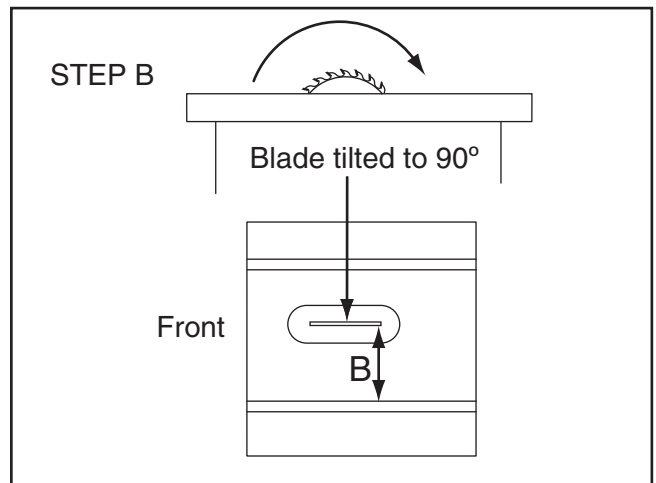

Figure 104. Measuring distance from miter slot to carbide tip on opposite side of table insert.
5. Slide the adjustable square down to the other end of the table insert, and compare the distance from the marked blade tip to the end of the adjustable square, as shown in **Figure 104**.